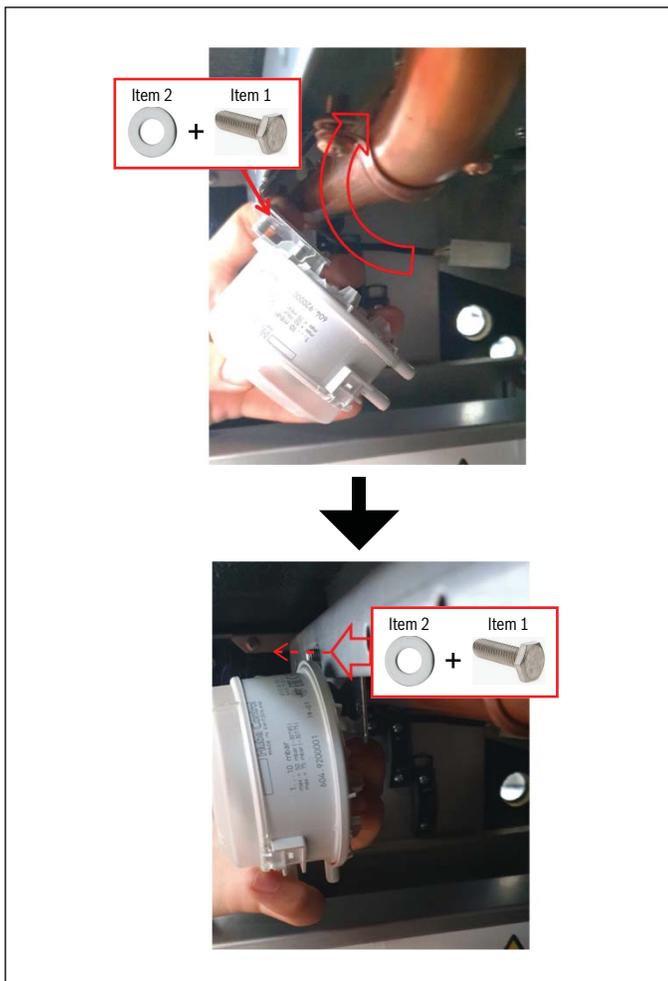

Figure 3
- Mount new pressure switch to the boiler's chassis by maneuvering the switch up and around copper pipe shown in Figure 3. The pressure switch bracket with bolt and washer (Items 1 & 2) should come through the backside of the flange it is mounted to on the boiler chassis.